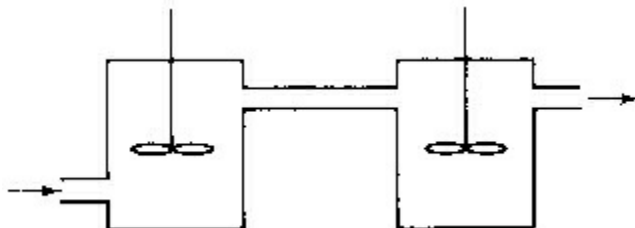

Figure P11.3.12
11.3.12 Suppose that you have two tanks in series, as diagrammed in Figure P11.3.12. The volume of liquid in each tank remains constant because of the design of the overflow lines. Assume that each tank is filled with a solution containing 10 lb of A, and that each tank contains 100 gal of aqueous solution of A. If freshwater enters at the rate of 10 gal/hr, what is the concentration of A in each tank at the end of 3 hr? Assume complete mixing in each tank and ignore any change of volume with concentration.